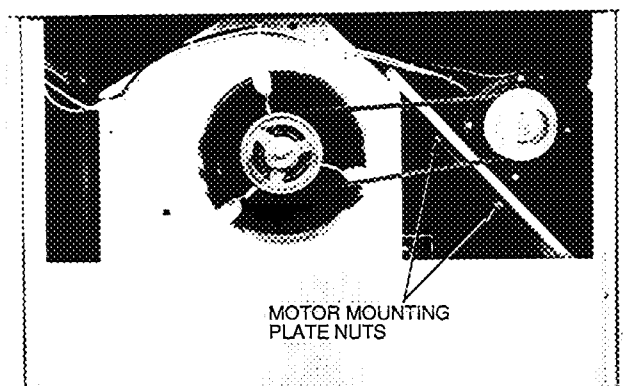

Fig. 21 - Typical Belt-Drive Motor Mounting for Sizes 008,009
2. Loosen belt by loosening fan motor mounting nuts. See Fig. 21 and 22.
2. *Sizes 008, 009* - Slide motor mounting plate away from fan scroll for proper belt tension ($\frac{1}{2}$ -in. deflection with one finger) and tighten mounting nuts (see Fig. 21).